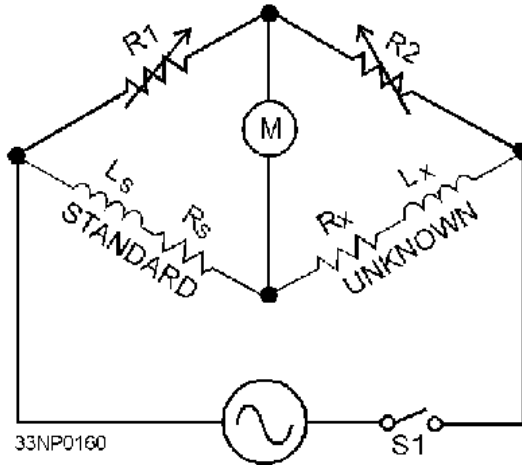

Figure 1-8.—Inductance bridge.
**INDUCTANCE BRIDGE.**—The value of the unknown inductance  $L_x$  may be determined by means of the simple bridge circuit shown in figure 1-8. Ratio arms  $R_1$  and  $R_2$  are accurately calibrated resistors.  $L_s$  is a standard inductor with a known inductance;  $R_s$  is the known resistance, and  $R_x$  represents the resistance of the unknown inductor.
In figure 1-8, for example, the values of R1, R2, and  $R_s$  are 20, 40, and 60 ohms, respectively. The value of  $L_s$  is 10 millihenries. We can find the values of  $R_x$  and  $L_x$  by using their respective formulas as follows: